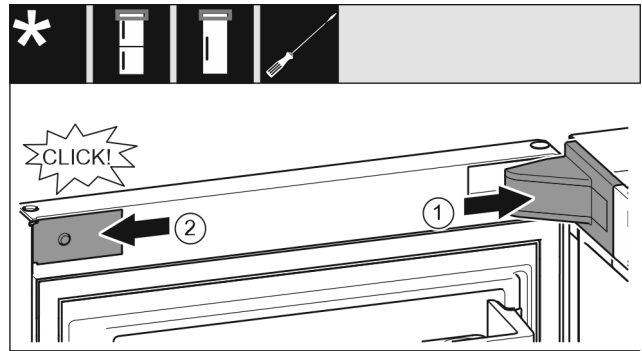

Fig. 21
- Position the bearing bracket cover and engage it. If necessary push it apart carefully. Fig. 21 (1)
- Position the panel on the side and latch into place. Fig. 21 (2)